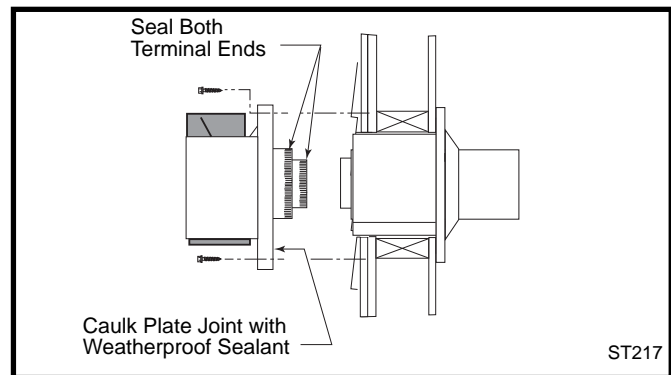

Fig. 29 Install the vent terminal.
10. Install the vent terminal. (Fig. 29) Guide the inner and outer vent termination collars into the adjacent pipes. Double check that the vent pipes overlap the collars by 2". Fasten the termination to the wall with the screws provided, and caulk the joint with weatherproof sealant.